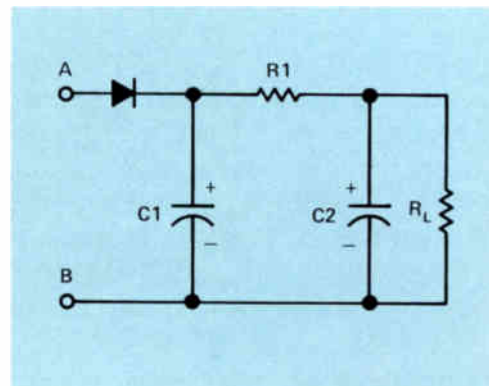
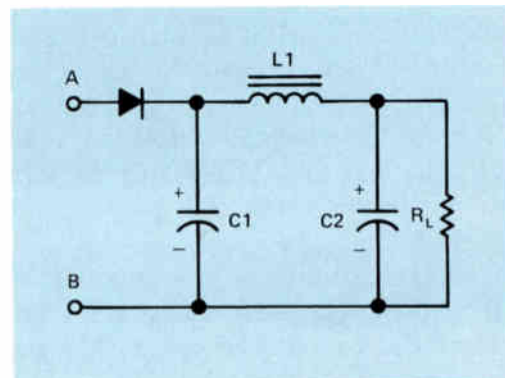
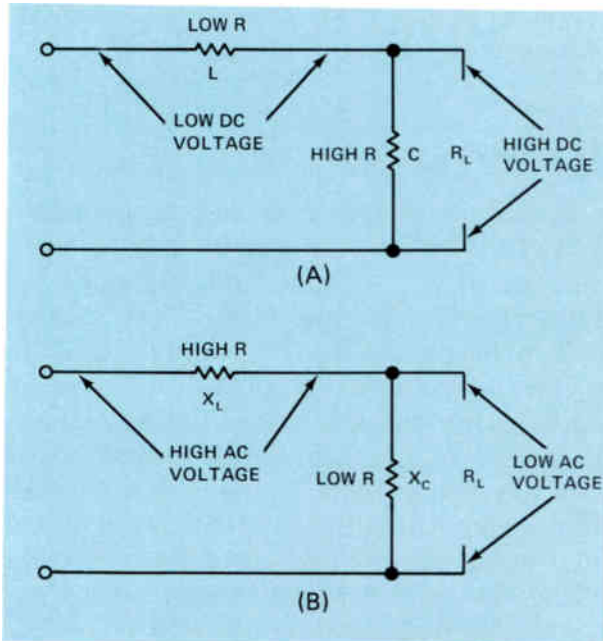

Figure 16. An RC pi-type filter.
Figure 18. An LC filter.
Figure 19. Equivalent circuits showing the reaction of an LC filter (A) to dc, and (B) to ac.
An improved filter, which is called a *pi filter* because it looks like the Greek letter (π), is shown in Fig.16. You will notice that this
The disadvantage of the resistor-capacitor type of filter shown in Fig.16 soon becomes apparent if you consider what happens because of the resistance of the filter resistor and the dc current flowing through it. If the dc current in the load is 100 mA, which is 0.1 ampere, the voltage drop across the 500 ohm filter resistor referred to in the previous section would be 50 volts. In the case of a power supply operating directly from the ac power line, a substantial portion of the available voltage would be dropped across the filter resistor. You will see this type of filter in applications where the current is reasonably low. In applications where there is a high dc current, an LC filter like the one shown in Fig.18 is usually used.
The action of the filter network made up of L_1 and C_2 is shown in Fig.19. You already know that a capacitor has a high resistance to dc, so that the only current flow through it will be a small leakage current. Therefore, as far as the dc is concerned, the capacitor acts like a high resistance. The dc resistance of L_1 , which is called a *choke*, can be kept low by using a reasonably large wire size to wind the coil. It is comparatively easy to build a 10 henry choke with a dc resistance as low as 50 ohms. With a 50 ohm dc resistance, the voltage across the choke with a current of 100 mA would be only 5 volts. This is far less than the 50 volt drop you would get across a 500 ohm filter resistor in the circuit shown in Fig.16.
at 60 Hz. Therefore, as far as dividing the ac voltage is concerned, we see in Fig.19(B) that the inductive reactance of the choke, which is 3750 ohms, is in series with the 50 ohm capacitive reactance of the capacitor. We have a voltage-divider network in the ratio of approximately 75 to 1. If the ac voltage across C_1 is 20 volts, as in the preceding example, the voltage across the capacitor would be approximately 0.25 or about one quarter of a volt. Thus, when compared to the RC filter where we had an ac voltage division of approximately 10 to 1, with the LC filter we have an ac voltage division of approximately 75 to 1. The ac at the output of the LC filter will be much lower and the dc will be much higher.
- 17 What advantage does the RC pi-type filter shown in Fig.16 have over the single capacitor-type filter shown in Fig.14?
7. The advantage of an LC filter such as shown in Fig.18 over an RC filter such as shown in Fig.16 is: